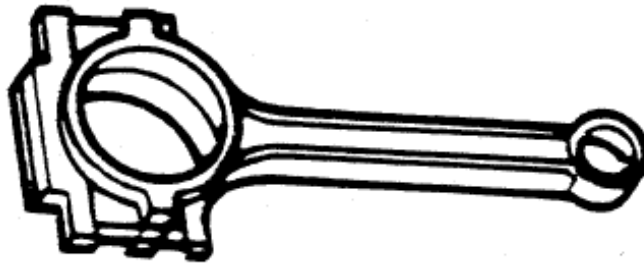

Fig. 1.3 Connecting Rod
6. Now consider a tension test for an aluminum alloy connecting rod as shown in Fig. 1.3.